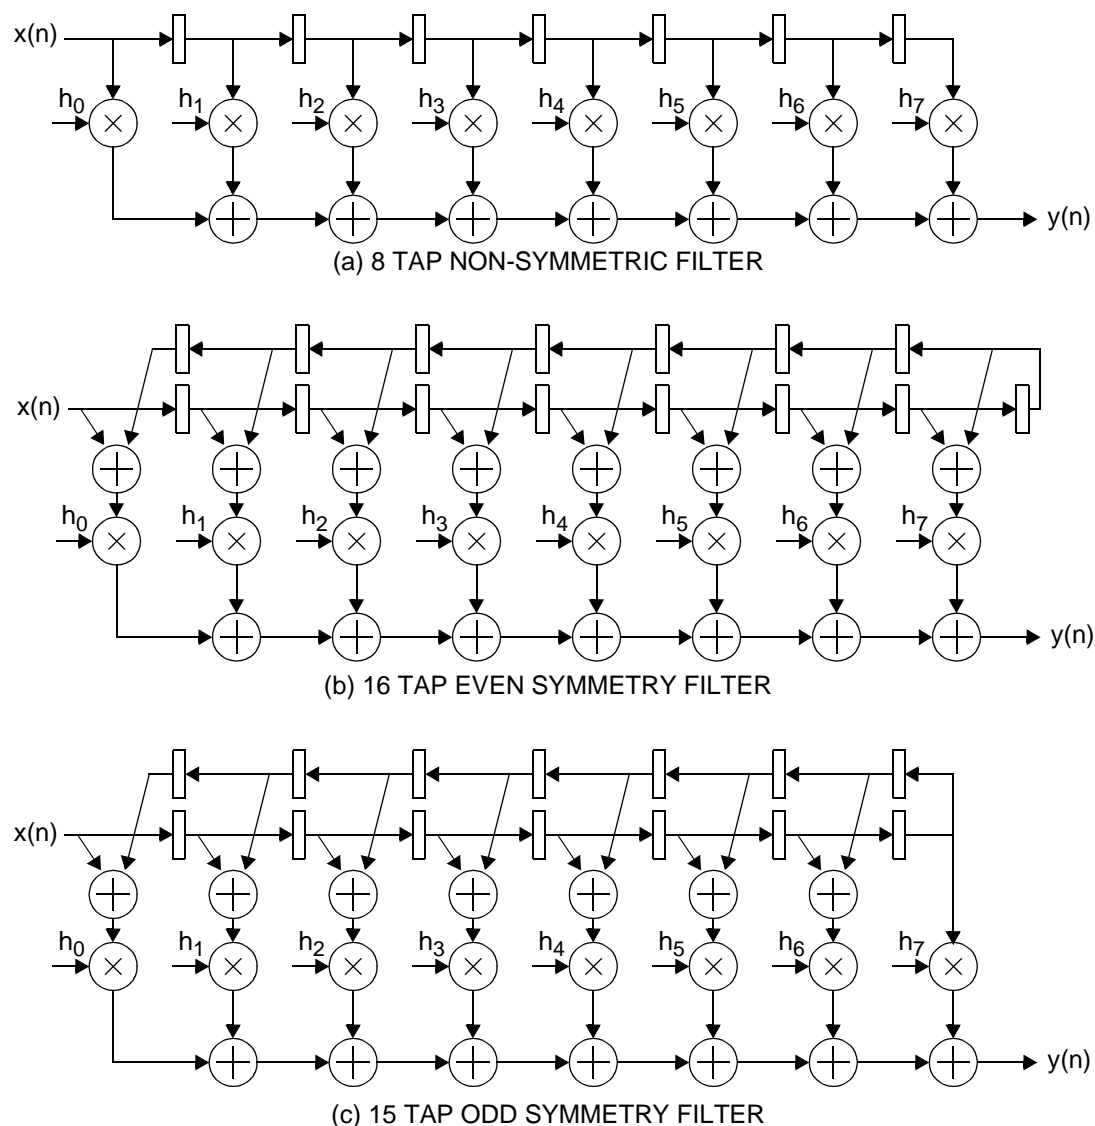

Figure 2. Basic Transversal Filters
where $x(n)$ is the input sample at time n , $y(n)$ is the output sample at time n , N is the number of taps in the filter and $h(k)$ are the filter coefficients. Many common filters are symmetric, meaning the tap coefficients are symmetric about the center tap. For example, the 16 coefficients (1, 2, 3, 4, 5, 6, 7, 8, 8, 7, 6, 5, 4, 3, 2, 1) have even-length symmetry. The 15 coefficients (1, 2, 3, 4, 5, 6, 7, 8, 7, 6, 5, 4, 3, 2, 1) have odd-length symmetry. Figure 2 shows the basic transversal filter structure for an 8 tap non-symmetric filter, a 16 tap even symmetry filter and a 15 tap odd symmetry filter (actual GC2011A filter sizes are up to 256 taps).
The GC2011A chip implements the transversal filter structures shown in Figure 2 with the addition of pipeline delays to increase the maximum clock rate of the chip. The pipeline delays add latency to the chip but do not effect its operation.
The full rate filter implements Equation (1) using the structures shown in Figure 2. The control register settings which configure the chip in the full rate modes are tabulated below: